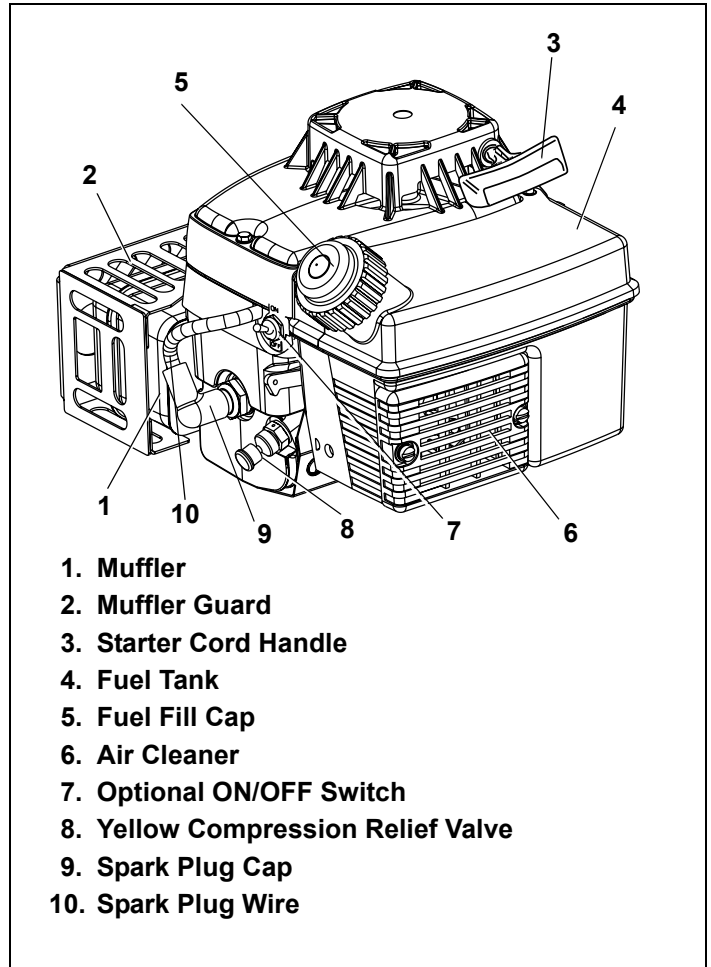
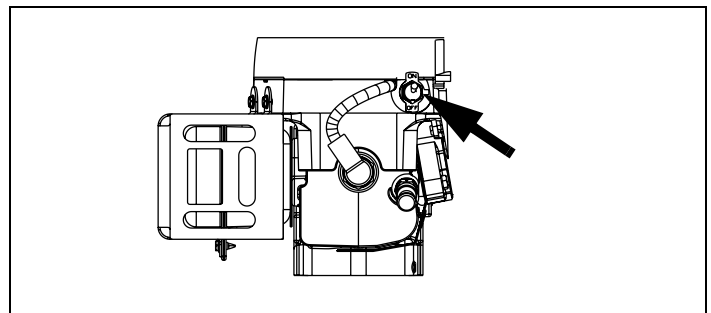

Figure 7. Engine Model TM049XA
Figure 9. Optional ON/OFF Switch
3. Clean area around fuel fill cap and remove fuel fill cap. See Figure 7.
1. Be sure any ignition switch on engine or equipment is in "ON", "RUN", or "START" position. See Figure 7 and Figure 9.